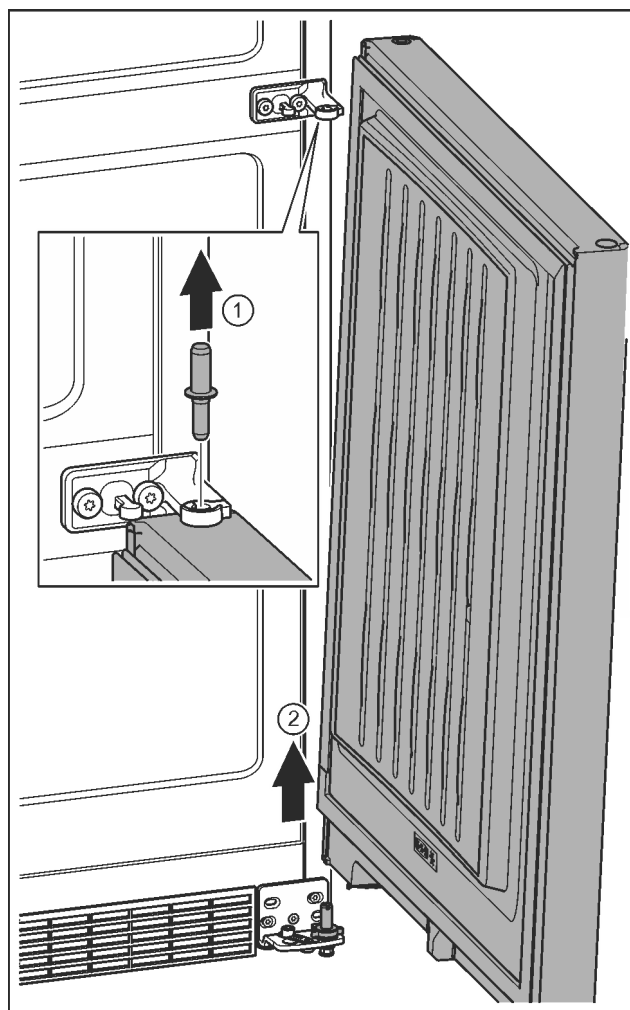

Fig. 11
- Pull out the bolts towards the top. Fig. 11 (1)
- Swing the door out, pull it upwards and set it aside. Fig. 11 (2)